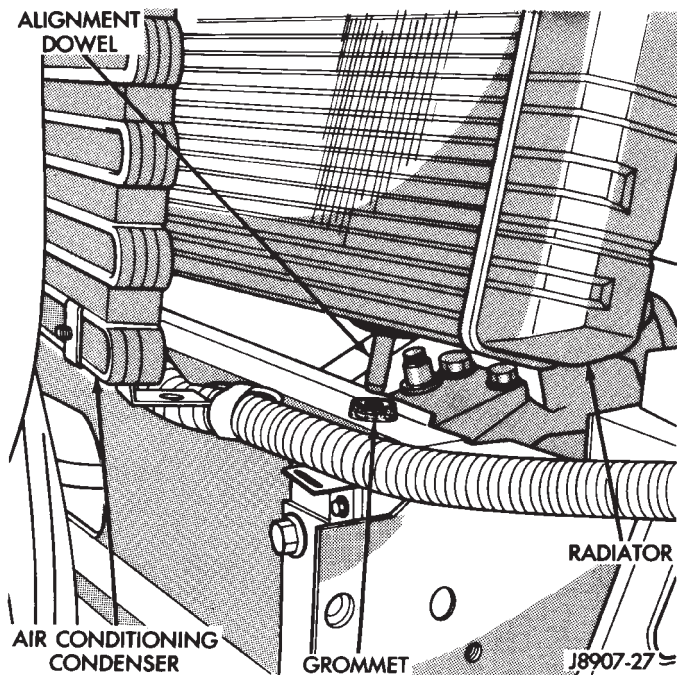

Fig. 16 Radiator Alignment Dowels—Typical
The radiator is equipped with two alignment dowels (Fig. 16). They are located on the bottom of the plastic side tanks and fit into rubber grommets located in the front lower crossmember.
(1) Carefully lower the radiator into engine compartment. Position the alignment dowels on the bottom of radiator into the rubber grommets in front lower crossmember (Fig. 16).